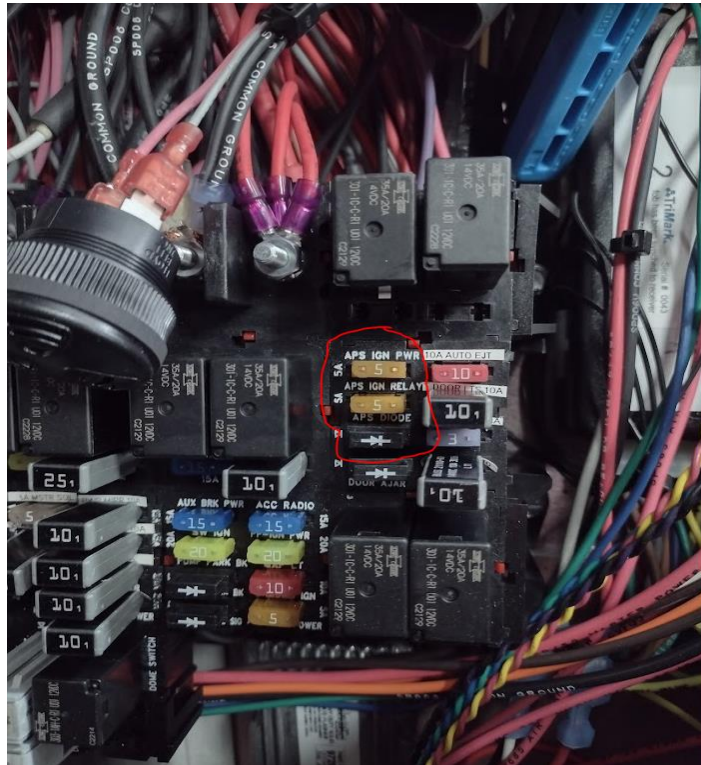

Figure 3.1
2. Lift center dash cover and locate APS fuse in officer side of panel. Remove APS fuses shown in *Figure 3.1*